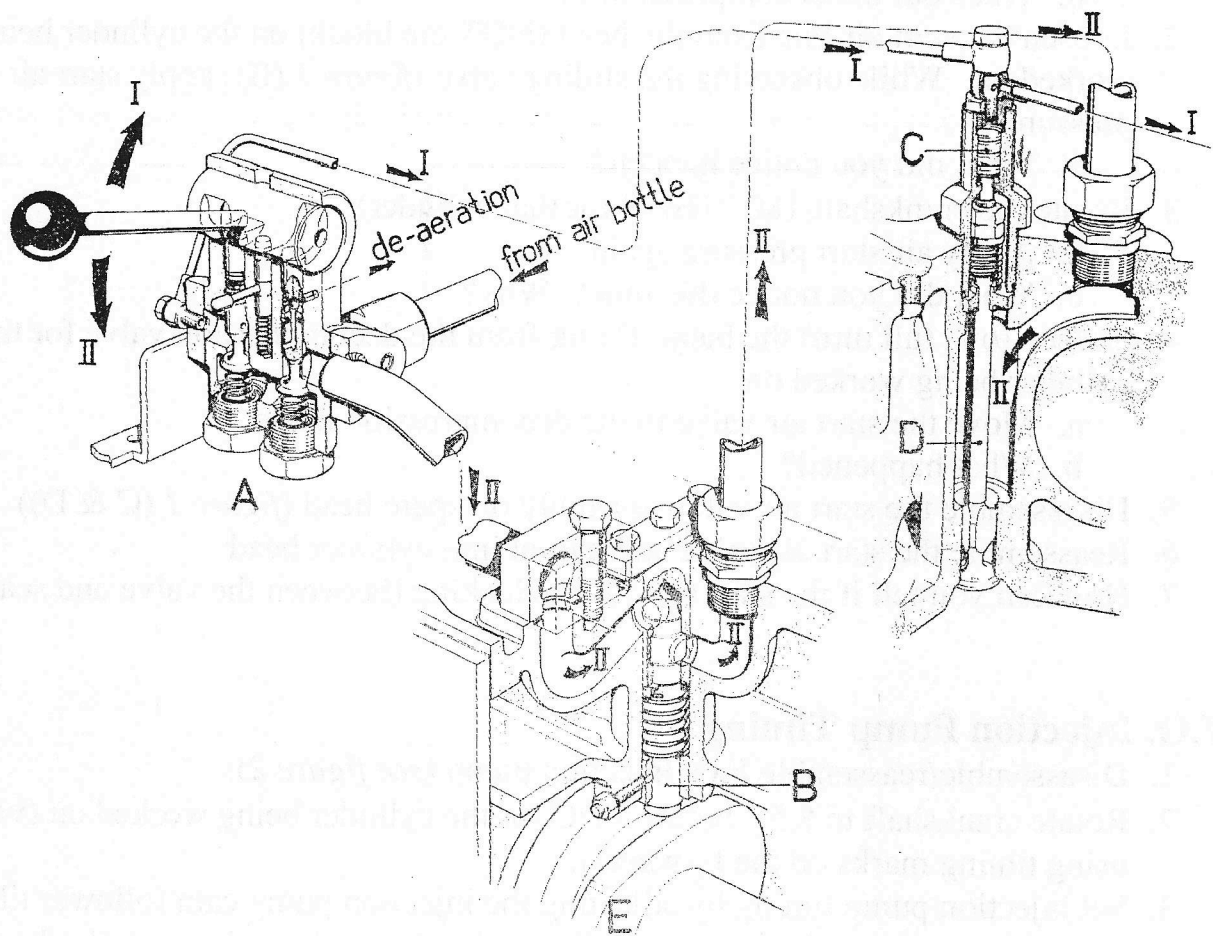

FIGURE 1
5. Disassemble the start air valve assembly on spare head (*figure 1 (C & D)*)